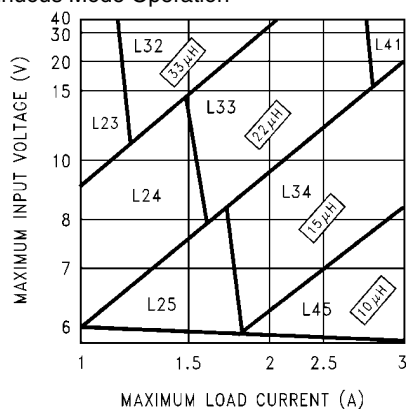
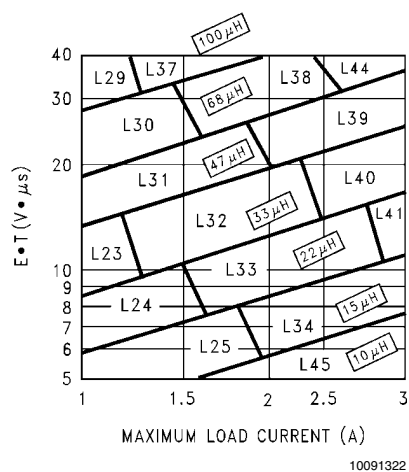

FIGURE 3. LM2673-3.3
FIGURE 6. LM2673-ADJ
Step 3: Determine the inductor required by using one of the four nomographs, *Figure 3* through *Figure 6*. Table 1 provides a specific manufacturer and part number for the inductor.
Step 5: Determine an input capacitor from Table 4 for fixed output voltage applications. Use Table 2 to find the specific capacitor type. For adjustable output circuits select a capacitor from Table 2 with a sufficient working voltage (WV) rating greater than $V_{in\ max}$, and an rms current rating greater than one-half the maximum load current (2 or more capacitors in parallel may be required).
Step 3: Use the nomograph for the 3.3V device, *Figure 3*. The intersection of the 16V horizontal line ($V_{in\ max}$) and the 2.5A vertical line ($I_{load\ max}$) indicates that L33, a 22 μH inductor, is required.
Step 3: To use the nomograph for the adjustable device, *Figure 6*, requires a calculation of the inductor Volt•microsecond constant ($E \cdot T$ expressed in $V \cdot \mu S$) from the following formula:
Using *Figure 6*, the intersection of 27V•μS horizontally and the 2A vertical line (I_{load} max) indicates that L38, a 68μH inductor, should be used.
Important Note: When using the adjustable device in low voltage applications (less than 3V output), if the nomograph, *Figure 6*, selects an inductance of 22μH or less, Table 6 does not provide an output capacitor solution. With these conditions the number of output capacitors required for stable operation becomes impractical. It is recommended to use either a 33μH or 47μH inductor and the output capacitors from Table 6.